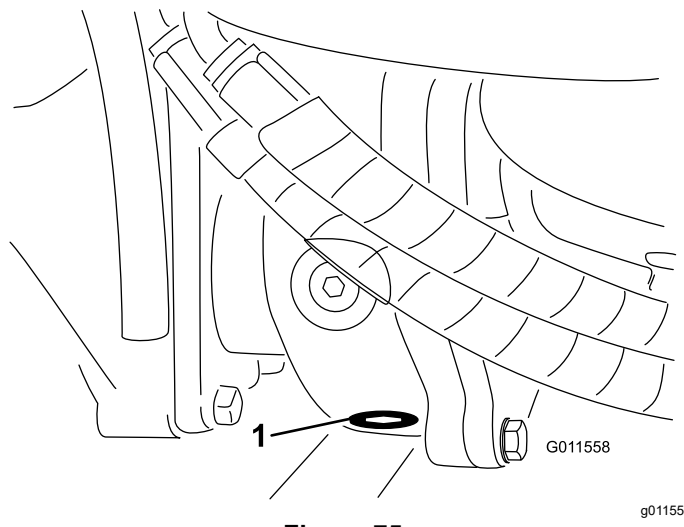

**Figure 74**
2. Clean the area around the 3 drain plugs; 1 on each end and 1 in the center (Figure 74).